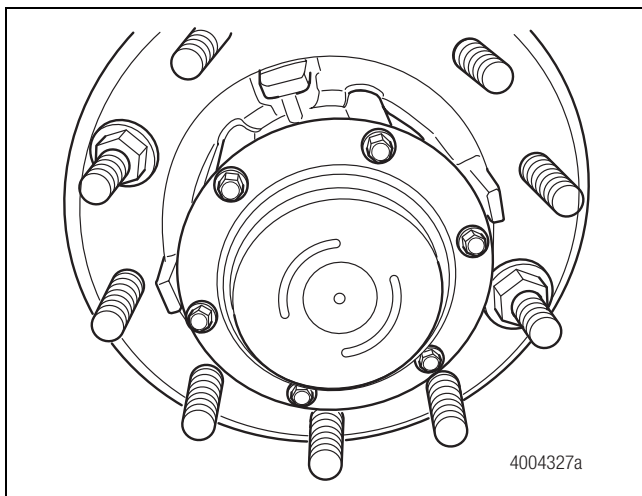

Figure 4.6
- The hubcap is a stamped steel bolt-on design with embossed semi-circles on the face and no provisions for adding lubricant. Figure 4.6.